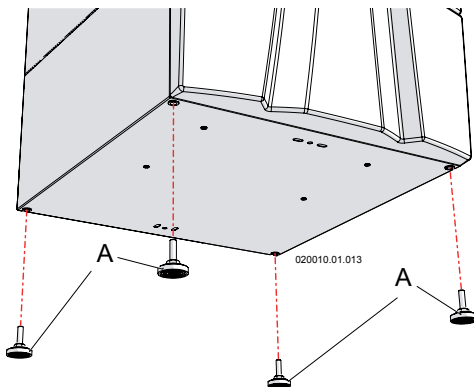

Figure 6-5 Install leveling feet
- 6.- Install the leveling feet and plumb the unit accordingly (see Figure 6-5).